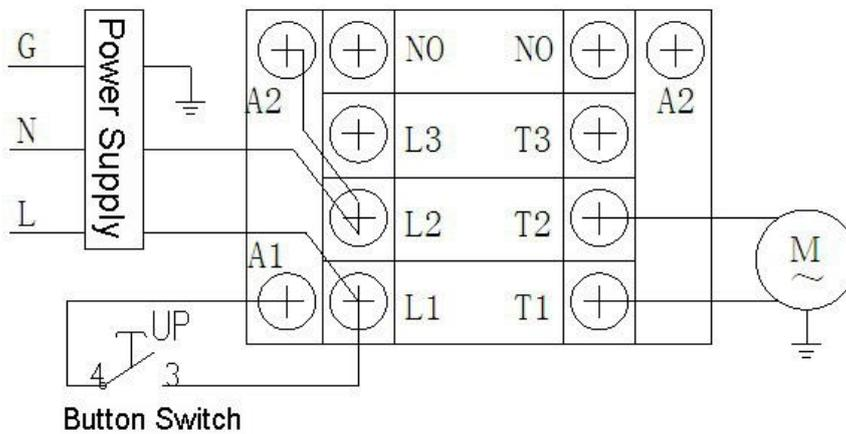

Fig. 32
1.3 Wire connection diagram (see Fig.32)